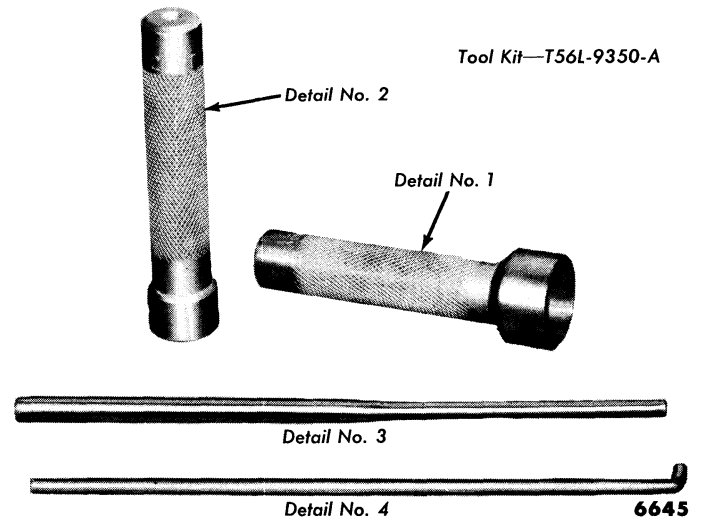

Fig. 69—Fuel Pump Overhaul Kit
Drive out the rocker arm pin and plugs using the long drift (tool—T56L-9350-A, detail 3, fig. 69).
(5) **ASSEMBLY.** Install a new pump rod seal and retainer with tool T56L-9350-A, detail 1. Stake the retainer in place. Lubricate the link, rocker arm bushing, and rocker arm with engine oil, then position them in the pump body and hold them in place with the tapered drift, detail 3, fig. 69.
Remove the upset on the end of the rocker arm pin. Remove the retaining washer, then drive the pin out with detail 3, fig. 69 and work the fuel pump and booster links out of the diaphragm stems. Remove the vacuum booster diaphragm. Remove the fuel pump diaphragm,
(5) **ASSEMBLY.** Install the diaphragm rod oil seals and seal retainers using tool T56L-9350-A, detail 1. Stake the seal retainers in place. Press the booster pump valves and gaskets in the pump body with detail 1, fig. 69. Stake the valves in place. Press in the valves and gaskets located inside the upper chamber cover with detail 1, fig. 69, and stake them in place.
Install the gaskets and valves in the fuel pump cover with detail 2, fig. 69, and stake them in place.
Install a thin washer, then a thick washer on each end of the bushing. Place the rocker arm return spring over the boss in the pump body. Place the rocker arm and link assembly in the pump body, and insert the long tapered drift, detail 3, fig. 69, in place of the rocker arm pin. Install the rocker arm pin by pushing the drift out with the pin. Place the retaining washer on the end of the pin, then peen the pin.